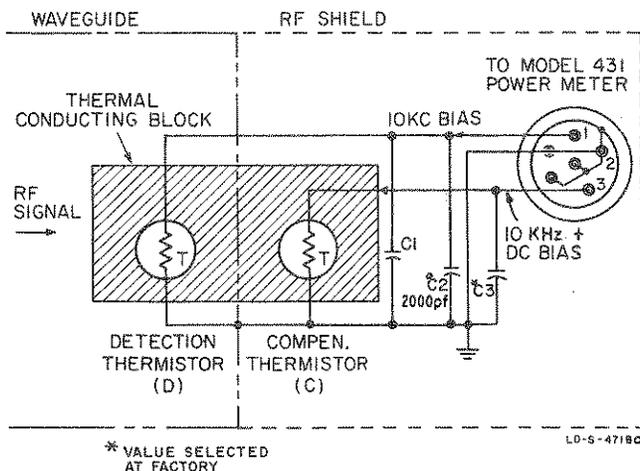

Figure 4. Thermistor Mount Schematic Diagram
45. The matched thermistor pair, C and D (C is used for thermal compensation, and D for RF detection), are mounted in an isolated common thermal environment represented by the shaded rectangle in Figure 4. Electrically, however, the thermistors are isolated from each other, D being mounted inside the waveguide and exposed to incoming RF, while C is entirely shielded from RF. A correct amount of 10-kHz bias is supplied through a cable from the Model 431 Power Meter to heat D to its operating resistance (100 ohms  $\pm 1\%$  or 200 ohms  $\pm 1\%$ ). An equal amount of 10-kHz bias, together with a DC bias, is supplied to heat C to the same operating resistance. As indicated in Figure 4, the total power applied to heat thermistor D consists of incoming RF, 10-kHz bias, and heat from the environment. The total heating power to compensating thermistor C consists of DC bias, 10-kHz bias, and the same environmental heat. As D and C are matched thermally, only equal amounts of heating power can bias them to equal operating resistances. Restating the foregoing algebraically: under normal operation